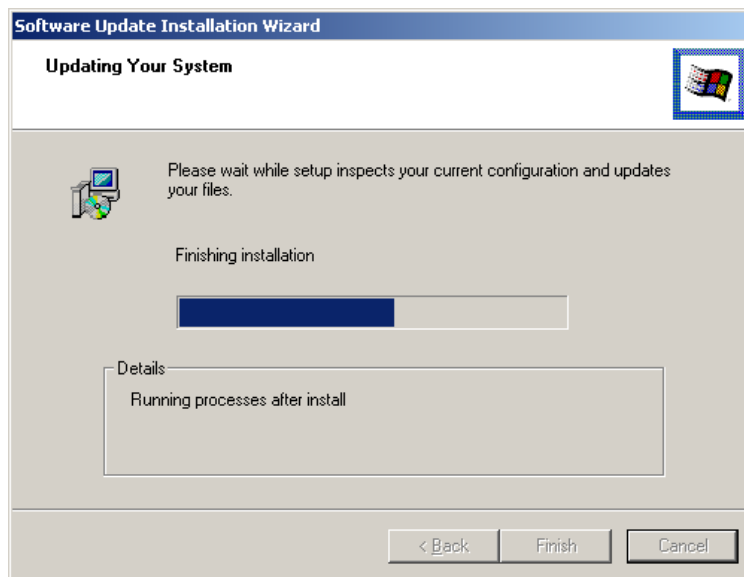

Figure 6-23: Installation Wizard Updates the System
Step 9: The Installation Wizard updates the system as shown in Figure 6-23.